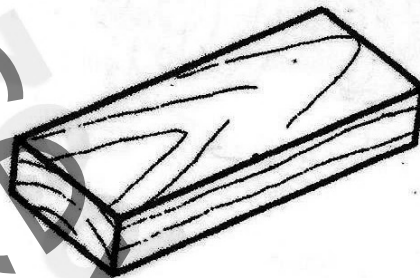

Figure 4
- 2 **Figure 4** shows a piece of wood measuring 220mm × 60mm × 20mm.